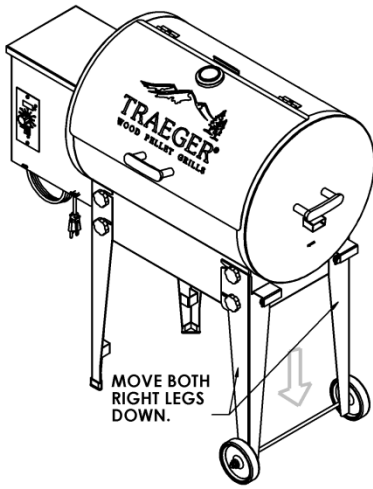

Figure 3-1
2. Lift the right side of the grill removing the weight on the right legs. Pull the right front leg down until it stops then pull to the leg to the right until it stops. Do the same on the back right leg. Then temporarily tighten the lower knob screw on both right legs to secure the leg from moving. Set the grill back down on the ground. (See Figure 3-1 and 3-2)